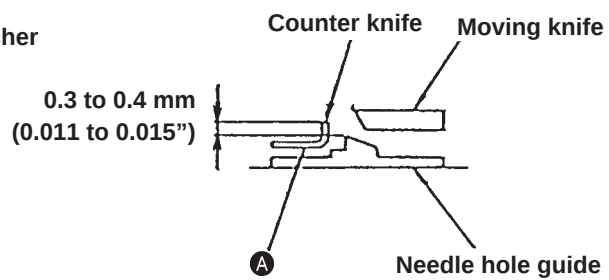

Fig. 8-2
1) If the difference in height between the needle hole guide and the blade of the counter knife has not been adjusted to a value within the range of 0.3 to 0.4 mm, adjust it by prizing off portion A (Fig. 8-2) with a screwdriver or the like. (At this time, check the parallelism between the blade and the throat plate installing plane.) 2) If the thread is not cut on B side, shave C side appropriately. If the thread is not cut on C side, shave B side appropriately.  Fig. 9-2 3) If the thread is not cut even after carrying out the adjustment steps 1) and 2), replace the moving knife or the counter knife with a new one.	Thread trimming failure will occur. ○ If side B is lower than side C, the thread will not be cut on C side. ○ If the side C is lower than side B, the thread will not be cut on B side.